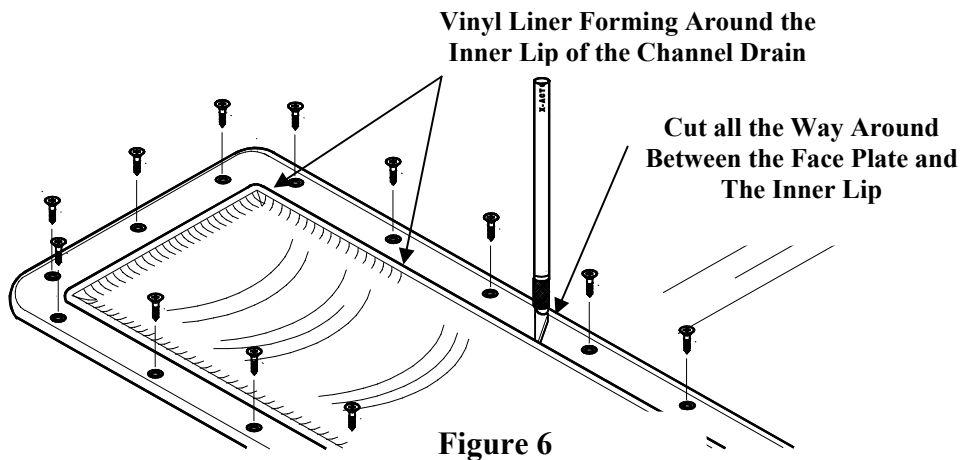

Figure 6
3. Starting at either end of the Channel Drain, place the face plate into position and apply slight pressure to seat the face plate around the inner lip (see Figure 6).